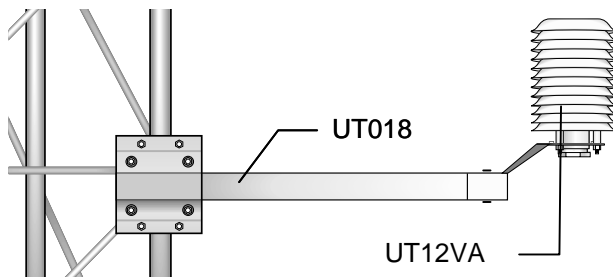

FIGURE 2.2-3. UT12VA Gill Radiation Shield and UT018 Crossarm
1. Attach the Gill Radiation Shield (UT12VA, UT12P, or UT6P) to the UT018 crossarm with the bolt and nut provided (Figure 2.2-3).
2. Attach the UT018 to the tower leg facing the prevailing wind direction (Figure 2.2-3). The top of the crossarm mounting bracket should be 74" from the bottom of the tower. Tighten the four nuts on the compression bracket to secure the crossarm.